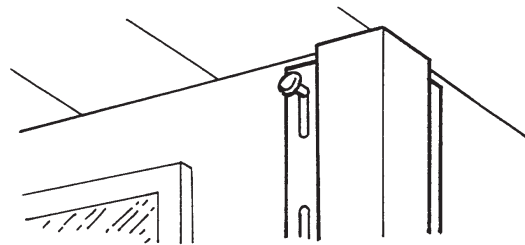

Figure 46.
- Place the first nails in the uppermost end of the top nail slots to hold them in position (Fig 46). Place all other nails in the center of the slots. Nails should be 8" to 12" apart.